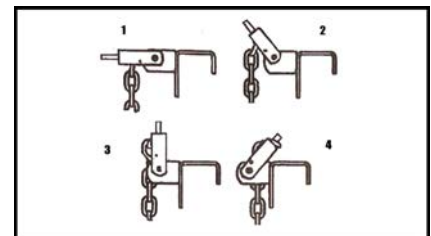

Figure 7: Raise the lift bracket with the chain and secure with locking pin.
•Raise the lift bracket and secure with the locking pin (see Figure 7). Repeat procedure on the opposite side of the trailer using the same number of chain links as the first side.
-If the front wheel well height is higher than originally measured, increase the load on the spring bars by either raising the chains or adding hardened washers ⑬ under pin ⑭. NOTE: To allow movement when turning, there should be at least 5 links between the lift bracket and the spring bars. The number of links should ALWAYS be the same on both bars.